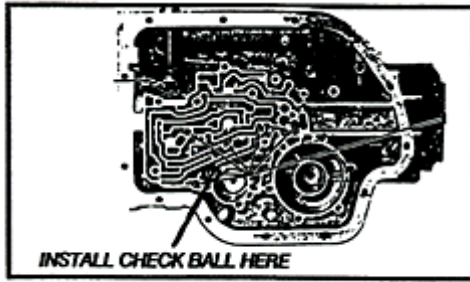

figure 1
STEP 2: REINSTALL ONE OF THE CHECK BALLS THAT YOU REMOVED WHERE SHOWN IN FIG. 1 ON THE FOLLOWING PAGE. THIS IS THE ONLY CHECK BALL THAT WILL BE USED.